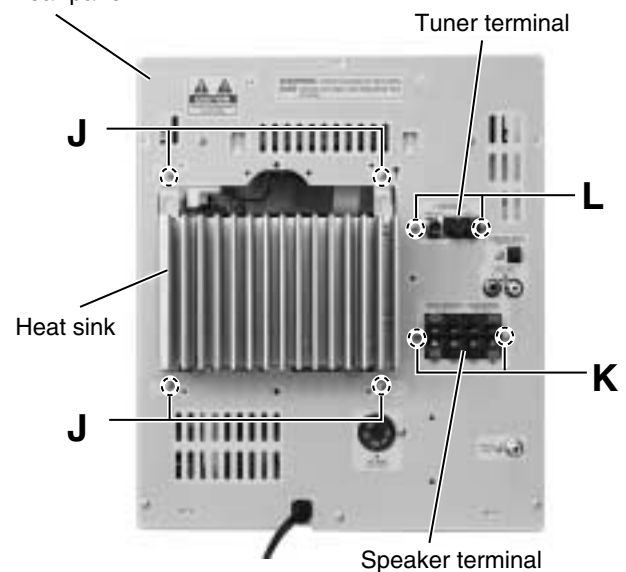

Fig.11
■ Removing the tuner board (See Fig.11 and 13)